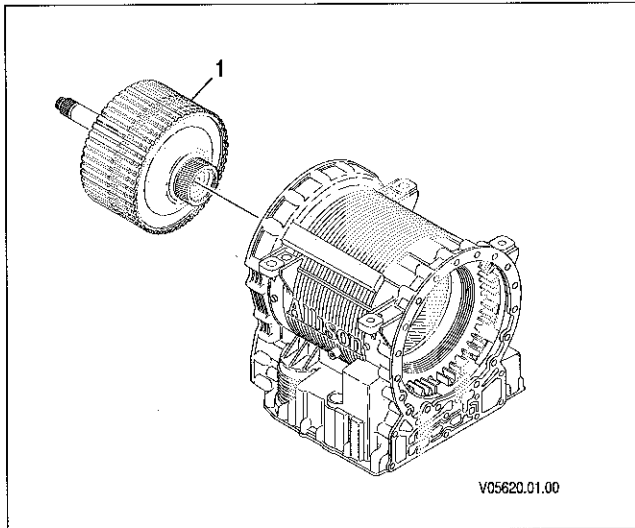

Figure 4-16. Rotating Clutch Module Removal
Carefully place rotating clutch module 1 (Figure 4-16) on the workbench and prevent it from rolling off the bench.
3. Using a hoist and an M16 eye bolt, lift turbine shaft and rotating clutch module 1 (Figure 4-16) from the main housing module.